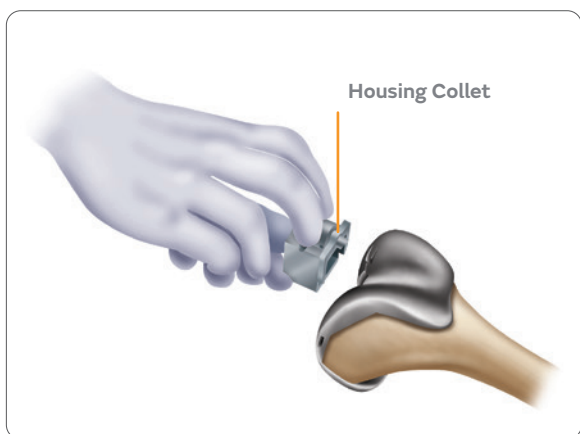

Figure 50
2. Choose the housing resection Collet matching the femoral trial size (either 1-2 or 3-8). Attach the Collet to the femoral trial by sliding the Housing Collet (anterior to posterior) into the slots on the distal face of the femoral trial and threading the two posts into the femoral trial. The Housing Collet should be secured in the anterior position first and then shifted to the posterior position and screwed (**Figure 50**).